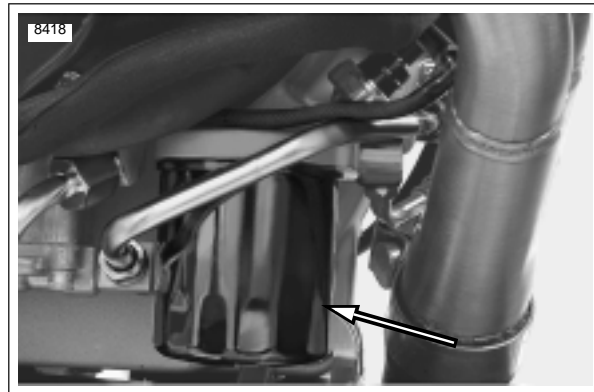

**Figure 1-5. Dipstick Location**
3. See Figure 1-5. Unscrew and remove dipstick from oil fill hole on top of oil tank/swingarm.